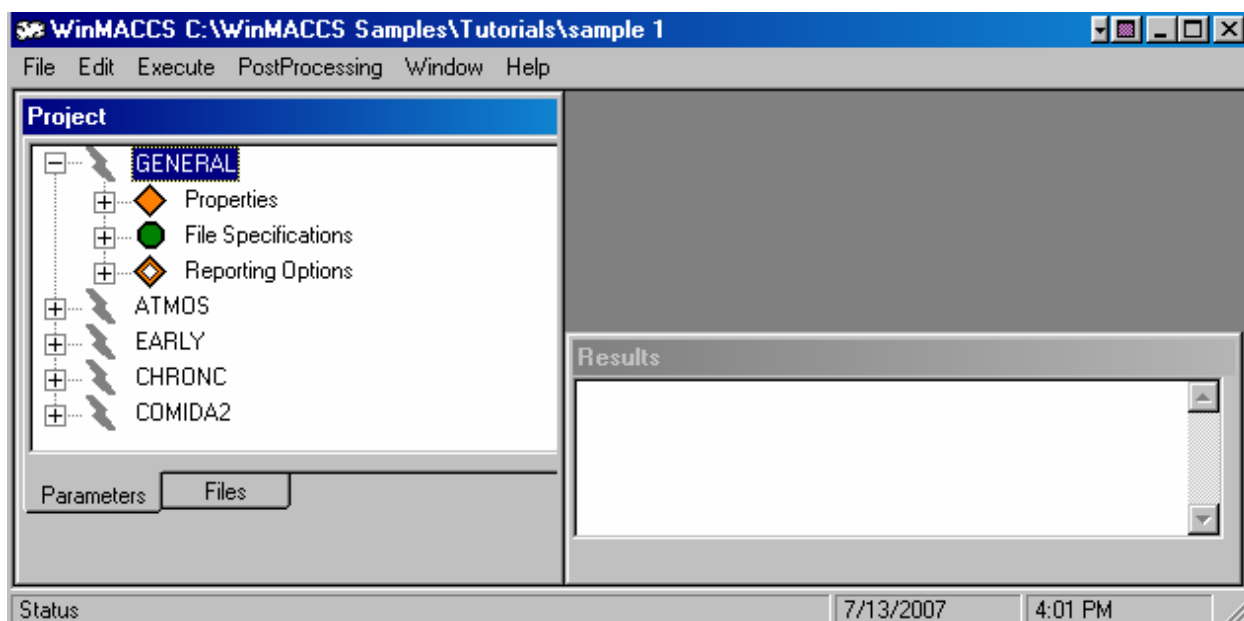

Figure 4-1 Project and Results Windows
When a project is opened using the *File*→*Open Project* command or a new project is created using the *File*→*New Project* command, a *Project* window and a *Results* window are opened. The *Project* window is used to modify parameter values and view related project files. Figure 4-1 shows the main components of a project.
- The caption at the top of the window indicates the name of the open project and the location of that project. In the example shown in Figure 4-1, the file C:\WinMACCS Samples\Tutorials\sample 1 is open.
Double-clicking on a file name opens the selected file in Notepad for editing. The user can modify the file and save it. The modified file is used when MACCS2 is run. Files in the *Data* directory other than those in *File Specifications* (Figure 4-1) are not shown in this view.